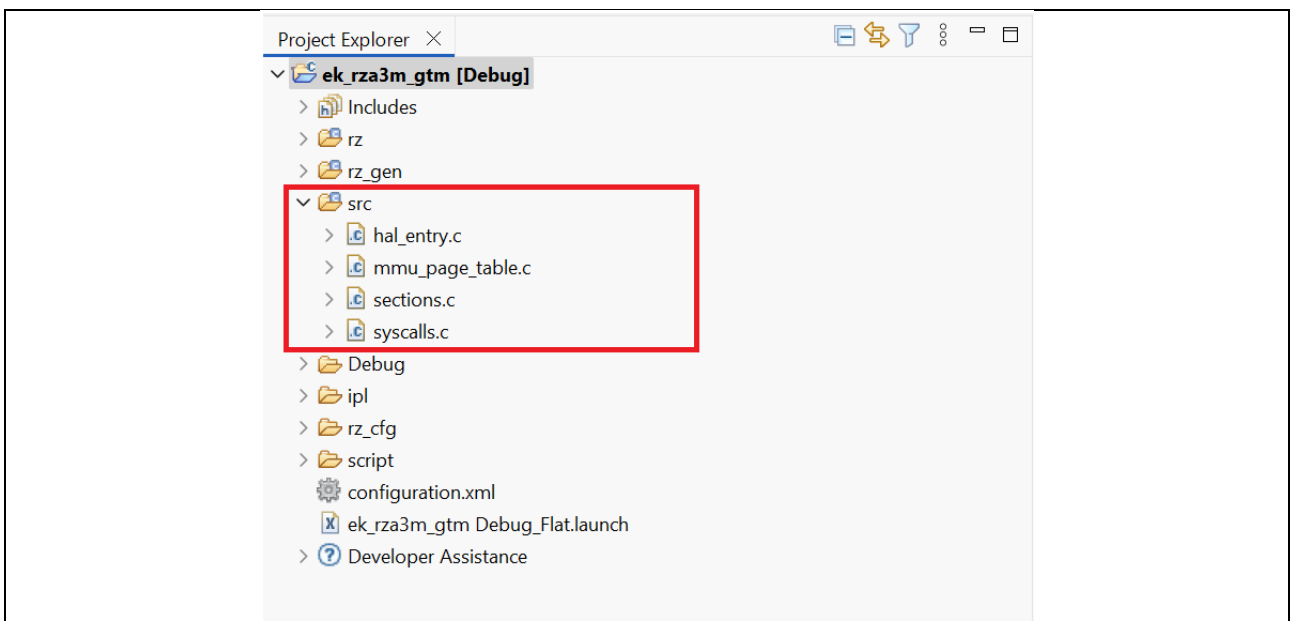

Figure 7. e² studio Project folder structure
- If the above steps are completed successfully, the src folder will be available in the workspace, as shown in Figure 7.